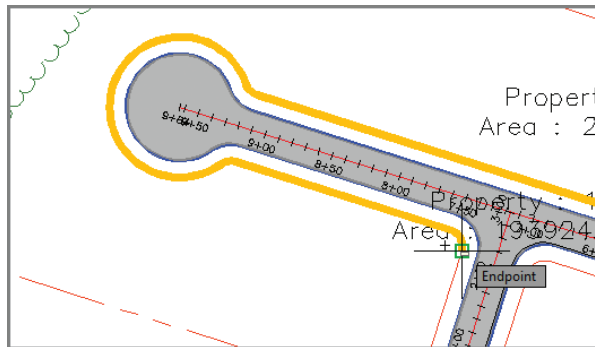

FIGURE 12.14 Selecting the ending point of the frontage
- When you're prompted for the endpoint of the frontage, move your cursor along the west right-of-way line of Jordan Court and then along the north right-of-way line of Madison Lane. Move your cursor around the Madison Lane cul-de-sac, and snap to the endpoint of the right-of-way line at the intersection of Madison Lane and Logan Court, as shown in Figure 12.14.